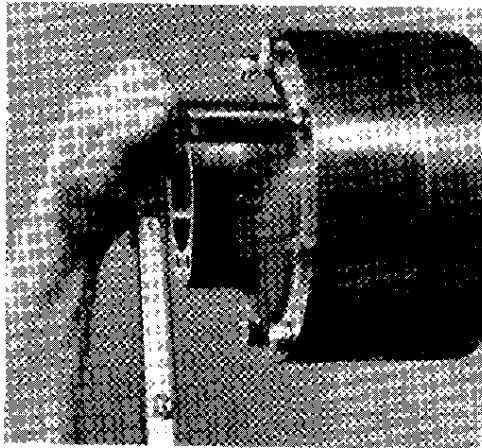

Fig. 1
2. Remove pipe plug (13) from case and drain oil from unit. Retain oil for analysis. Remove remaining two pipe plugs (31) in motor adapter (30).
4. Remove eight bolts (23) from motor adapter (30). (Fig. 1)
5. Remove motor adapter (30) from internal gear (21). **[Model 20D— Remove motor adapter (30) from small internal gear (28).]**
24. [Model 20— Place motor adapter pilot into counterbore of internal gear (21). Line up holes in motor adapter with matching holes in internal gear. Insert eight grade 8 cap screws (23) with lock washers, in holes. Tighten to 60-75 ft. lbs. torque.]
[Model 20D— Place transition plate (22) pilot into counterbore of large internal gear (21). Line up holes in transition plate with matching holes in internal gear and housing. Insert eight cap screws (23) with lock washers, in holes. Tighten to 60-70 ft. lbs. torque.] (Fig. 1)